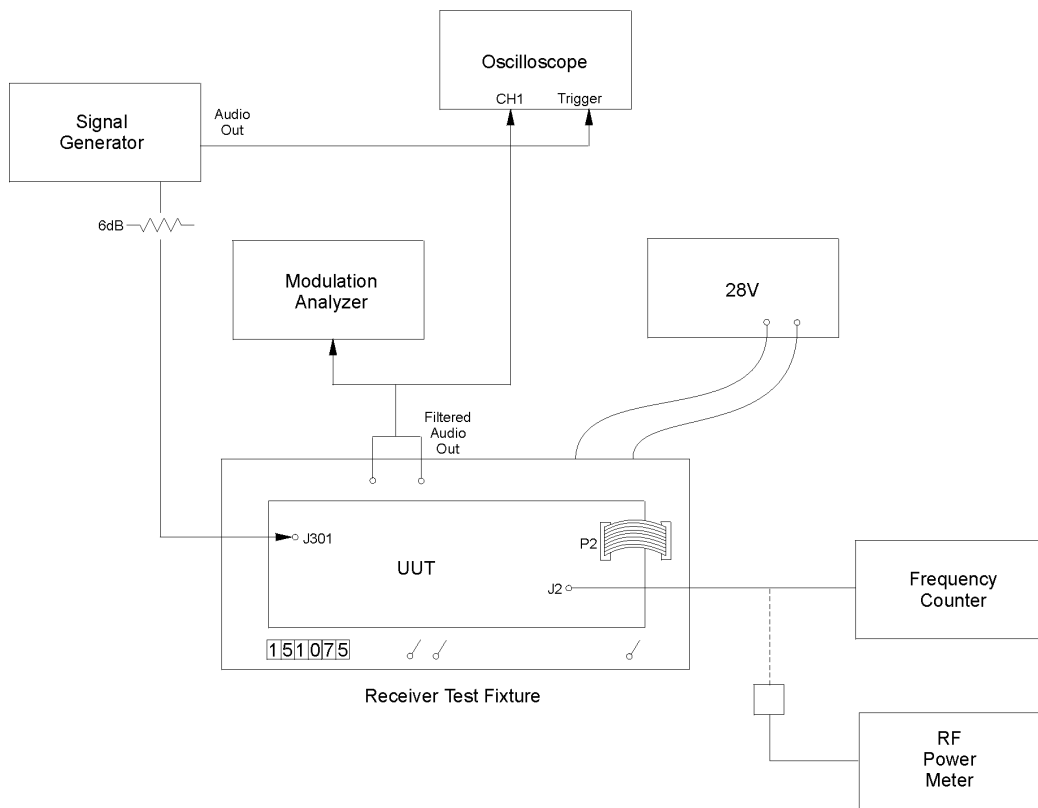

Figure 3-1. General Receiver Test Configuration
(1) Setup
- (c) Set up the general test configuration as shown in Figure 3-1.